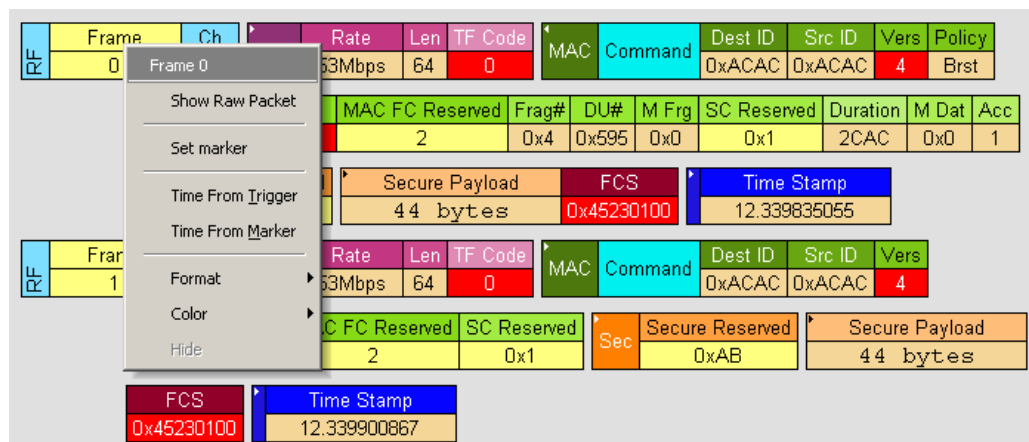

Figure 3.12 Setting a Frame Marker
Step 2 From the pop-up menu that appears, Select **Set Marker** (Figure 3.12).